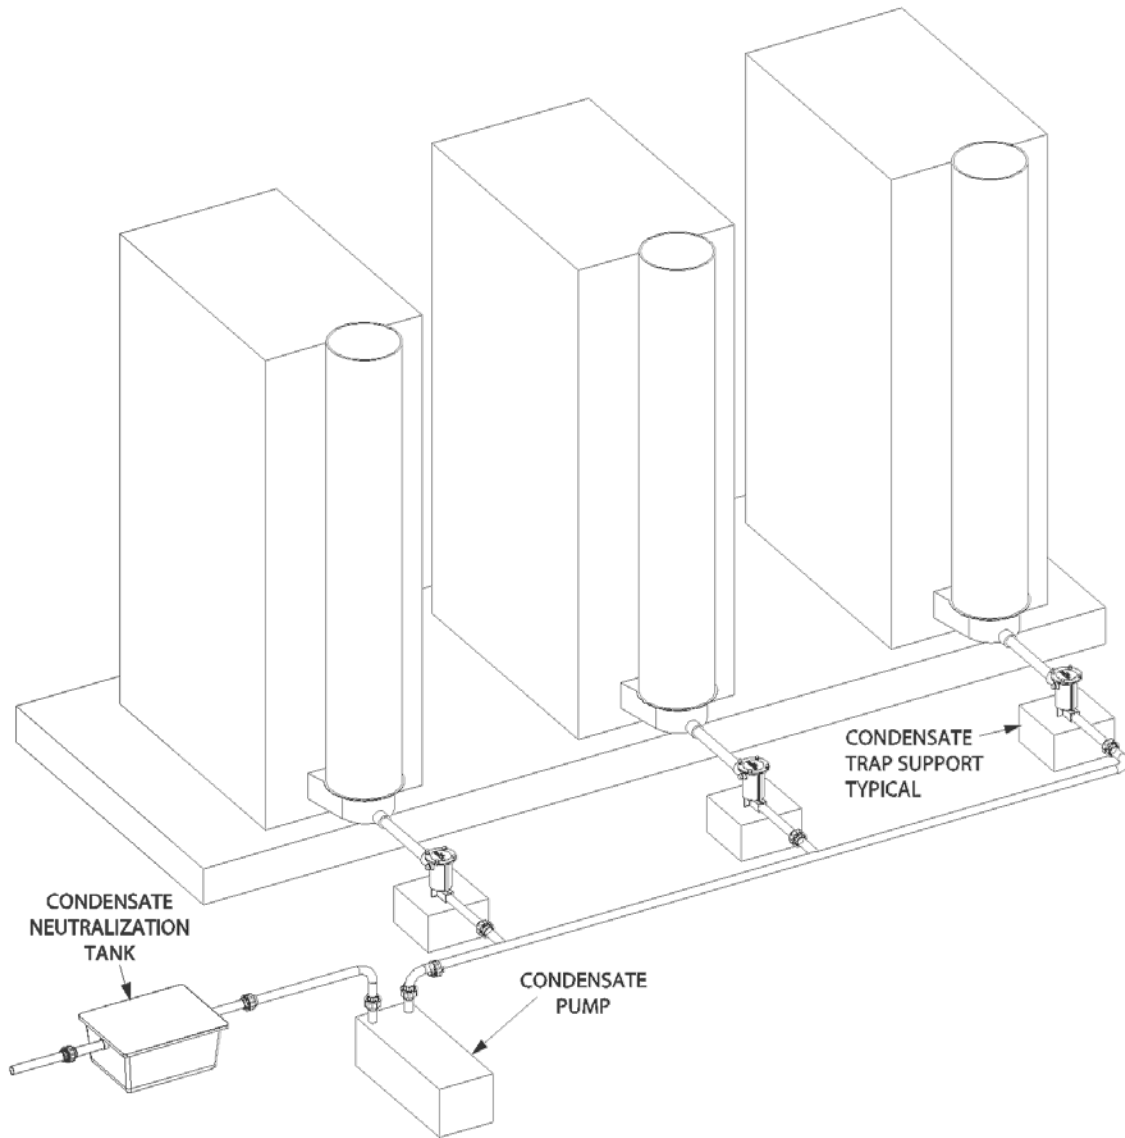

Figure 4: Multiple Boiler Units with Tank and Condensate Pump (P/N 89030)
- A condensate pump is used to lift the condensate from the appliance to the Neutralization Tank (Figure 4).
If there is no gravity drain available or if the boiler/water heater cannot be elevated to be higher than the neutralization tank, install a condensate removal pump designed for use on condensing boilers and furnaces (Figure 4).